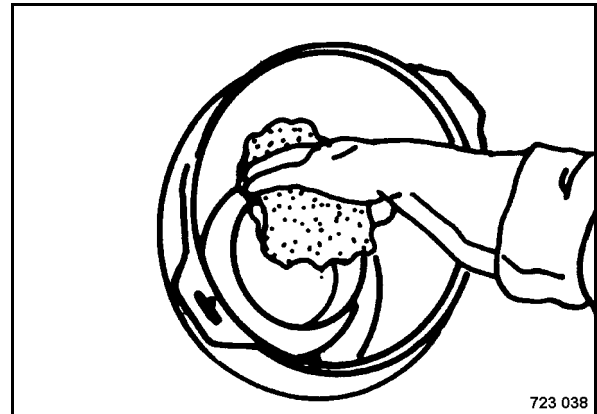

Fig. 106
- Clean the sealing face on the outlet tube (Fig. 106).